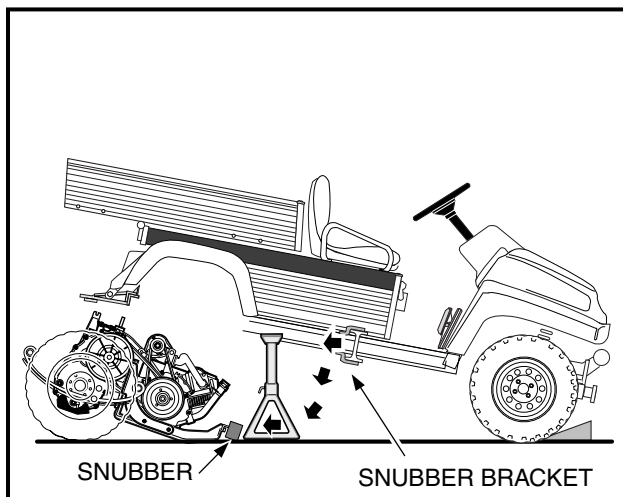

Figure 16-29 Snubber
13. Carefully lift the snubber out of the snubber bracket in the vehicle frame and lower it to the floor (**Figure 16-29, Page 16-13**). The powertrain should be completely disconnected from the vehicle and resting on the floor.